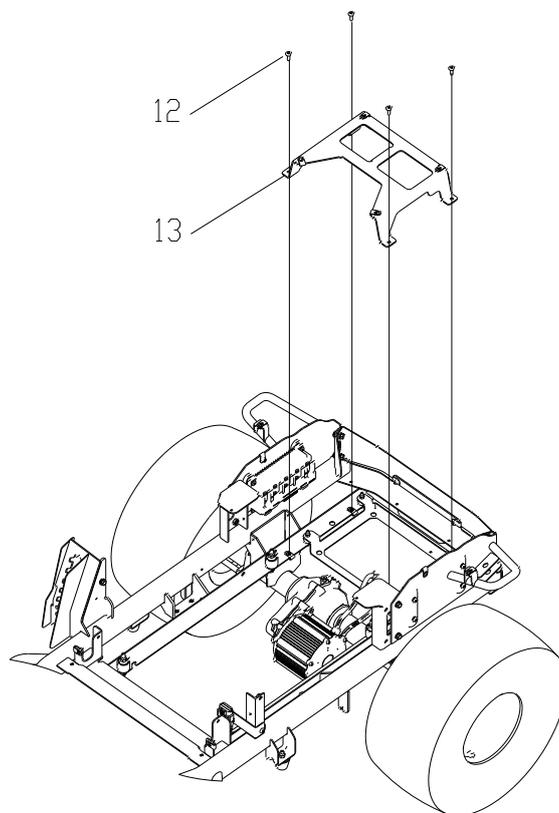

Fig. 8
2. As shown in Fig. 8, use a T30 screwdriver to remove the screw (12).
5. Remove the fixing support (14).